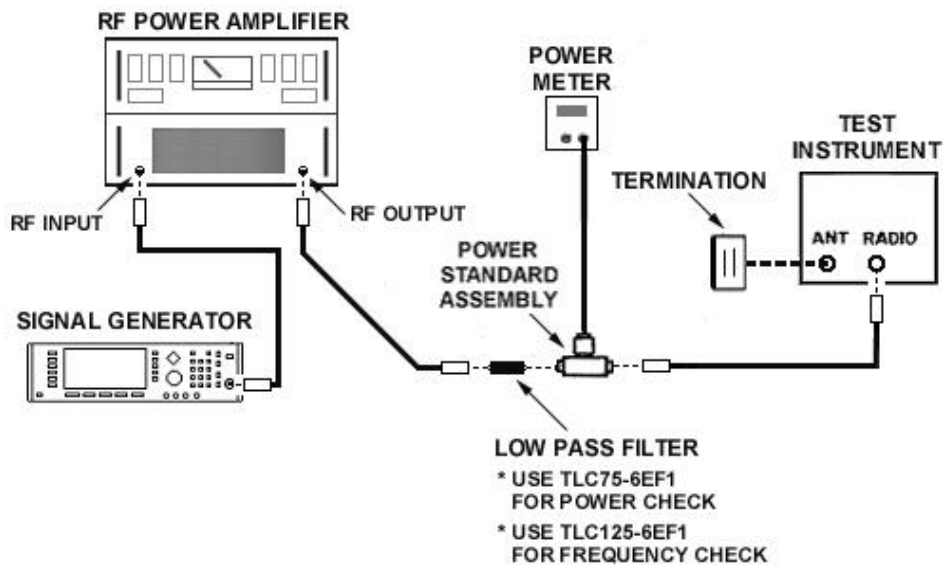

Figure 2. Power and frequency check – equipment setup.
(1) Connect equipment as shown in figure 2.
- (1) Connect equipment as shown in figure 2.
- (2) Set **MODE** switch to **FREQ** position.
- (3) Adjust signal generator and RF power amplifier levels for approximately 5 W as indicated on RF power amplifier meter and adjust signal generator frequency until TI display reads 30.0 MHz. Signal generator frequency display will indicate between 29.998 and 30.002 MHz.
- (4) Repeat technique of (3) above for TI display and signal generator frequency display indications listed in table 4. Signal generator frequency display will indicate within limits specified.